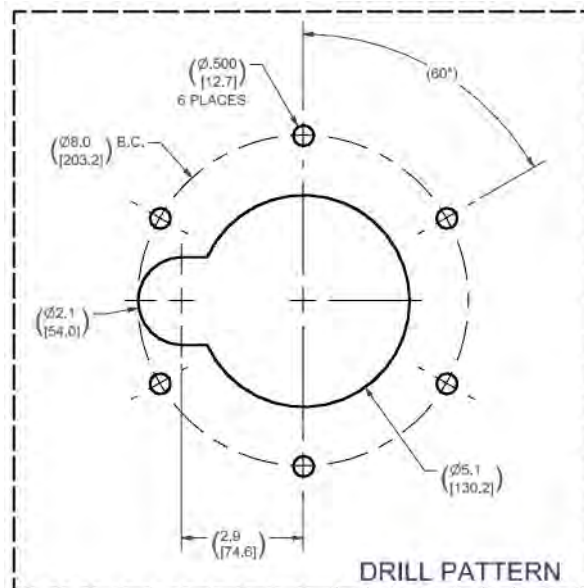

Figure 5-5 Internal Mounting Kit Roof Cutout Dimensions
2. Cut out the roof hole according to Figure 5-5. Using the bracket as a fixture, mark and drill the mounting holes as shown.